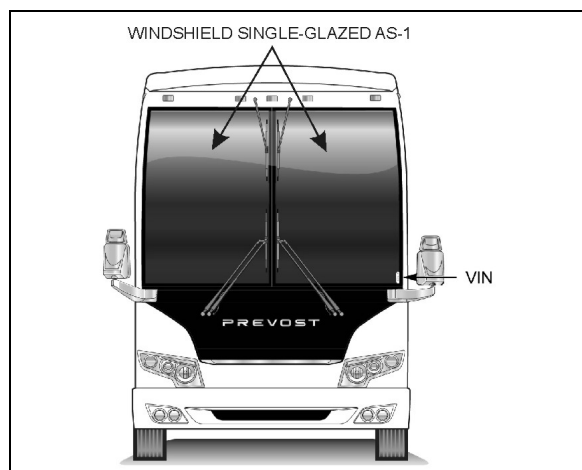

FIGURE 46: WINDSHIELD
6. Confirm that both latches are in the closed (latched) position. The upper edge of the latch opening must be aligned with upper edge of the sash opening (Figure 46)